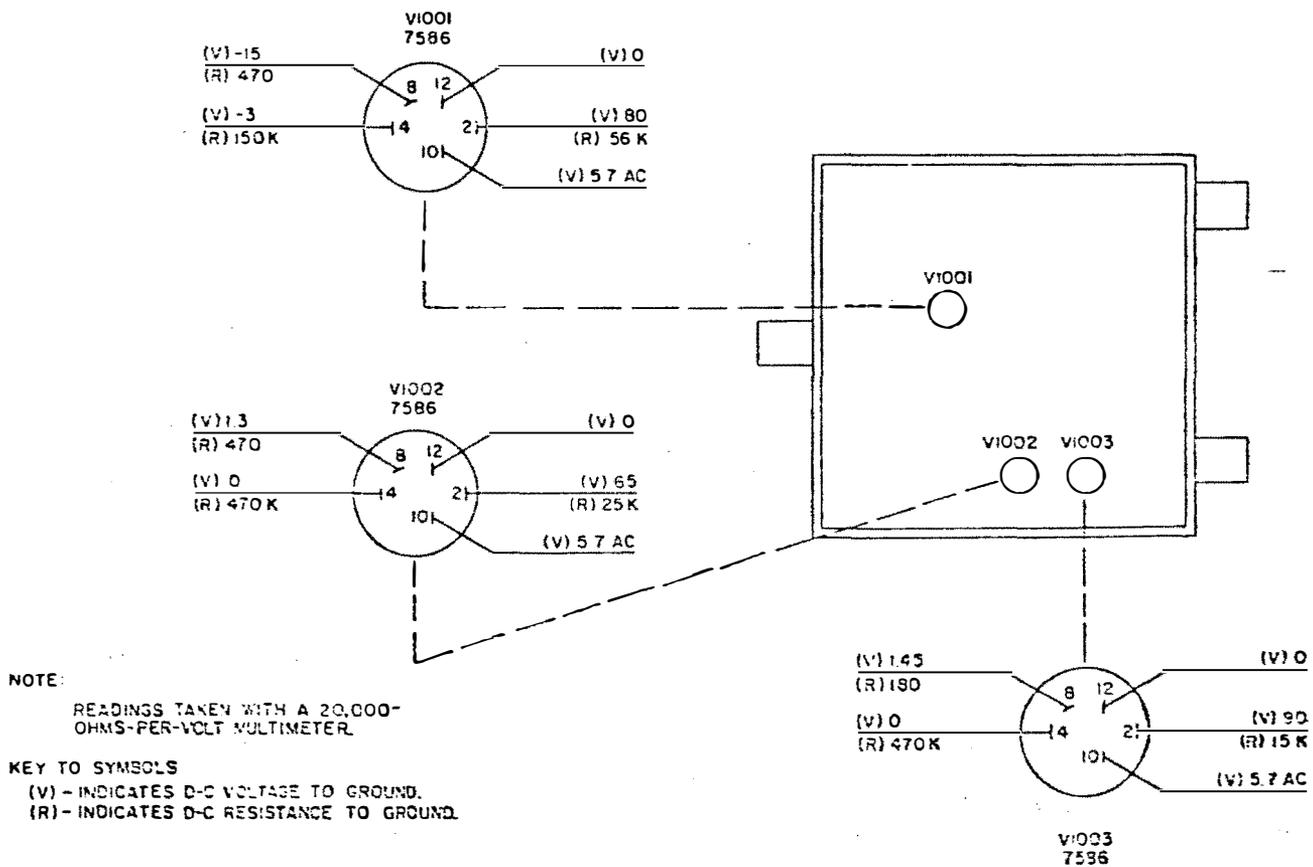

Figure 5-10. 100-Kc Oscillator-Amplifier, Voltage and Resistance Diagram
- (1) Seating of V1001, V1002, and V1003 in their sockets.
- (2) Cable connections at J1057 and J1063.
- (3) Seating of crystal-oven assembly A1001 in its socket.
f. 100-KC OSCILLATOR-AMPLIFIER TROUBLESHOOTING CHART. - Table 5-6 is a troubleshooting chart for the 100-kc oscillator-amplifier subassembly. It provides for measurements of the d-c plate voltage distribution and stage-by-stage signal tracing. Perform the steps in the order listed. Compare the results of each step with information in the NORMAL INDICATION column, and follow the instructions in the NEXT STEP column. Figure 5-10 is a diagram of voltage and resistance measurements for the oscillator-amplifier assembly.